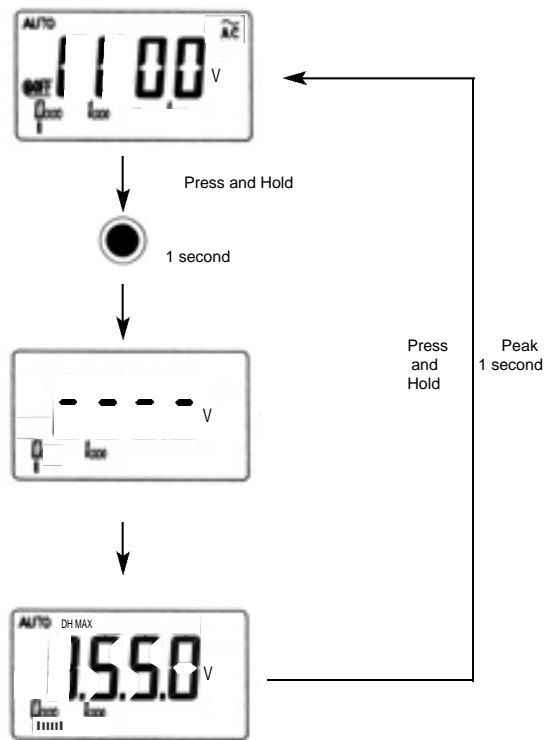

Figure 16. 1ms Peak Hold Display.
- 2) Press **PEAK** button momentarily to select PEAK+ measurement after entering the peak mode. The display shows "DH MAX" to indicate the PEAK +. **See Figure 16.**